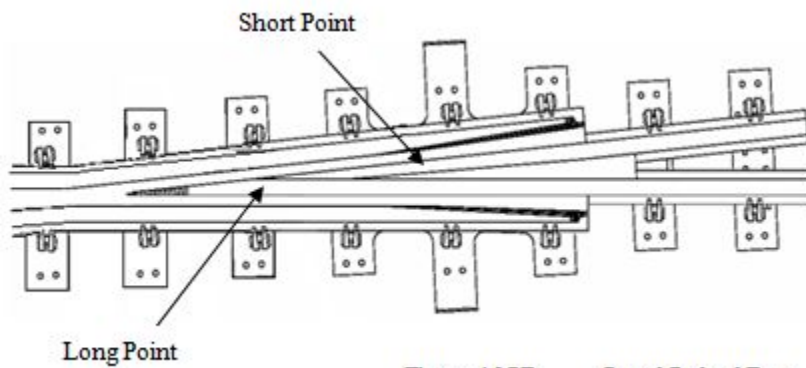

Figure 107E *Rigid Bolted Frog*
- Rigid Bolted Frog - The rigid bolted frog is made entirely of rail steel. (Refer to Figure 107E)